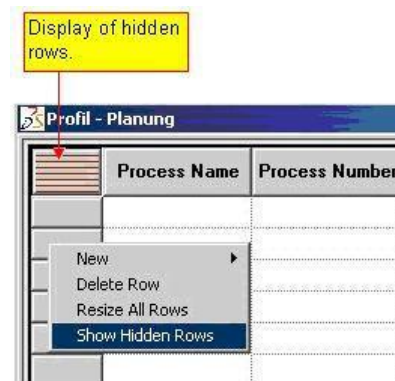

Figure 113: Showing Hidden Rows Again
- 9) Hidden rows can be shown again with the help of **Show Hidden Rows**. Please refer to the Figure 113.